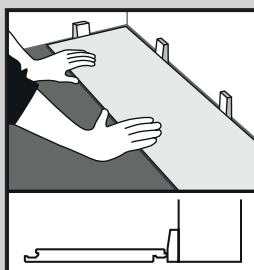

Fig. 1
1. First check the width of the room and calculate how many full rows will fit; the remaining space should be halved to indicate the width of the first and last row of planks. If the space is calculated to be less than 6" (150 mm), the number of full rows should be reduced by one and the width of the cut planks in the first and last rows is increased accordingly. Install the plank with the tongue side/cut edge facing the wall, fit 0.2" (5 mm) spacers between the plank and wall (Fig. 1).